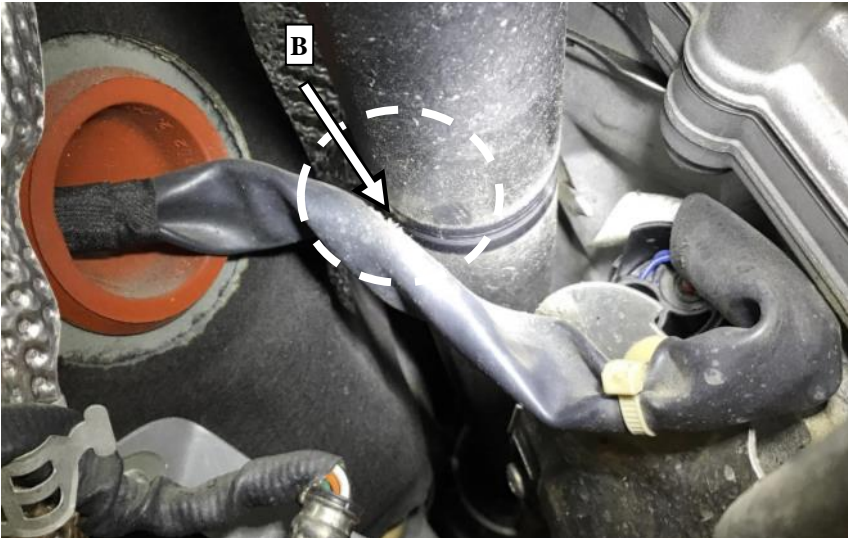

Figure 2, not OK condition
2. Check clearance (B, Figure 2) between transmission wiring harness, transmission tunnel and transmission.